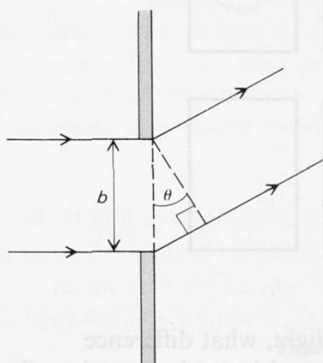

Figure J105
10(R) Figure J105 is used to illustrate an argument which shows that for diffraction from a single slit, the intensity first falls to zero when $b \sin \theta = \lambda$.